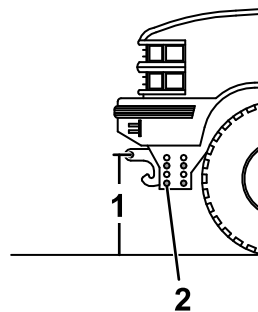

Figure 31
1. Measure the distance from the ground to the coupler spring-pin holes on the undercarriage pushbeam (Figure 31). The measurement should match the height listed for your plow in Specifications (page 21).
2. If the pushbeam is not at the correct height, remove the fasteners securing the pushbeam to the undercarriage (Figure 31).